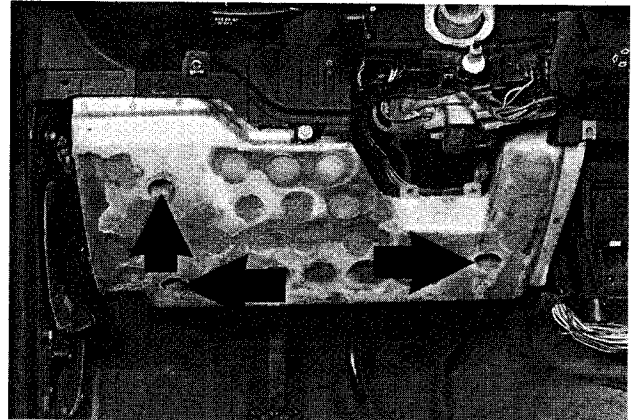

Fig. 5. Driver side knee bolster mounting bolts (arrows).
7. Remove driver side knee bolster. See Fig. 5.